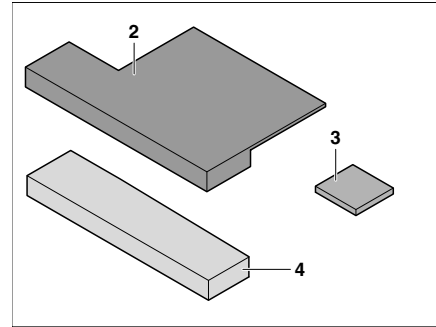

Fig. 188 Additional cushion
- If available, attach the seat wedge (Fig. 188,3) to the additional cushion (Fig. 188,2) (with hook and loop fastener).